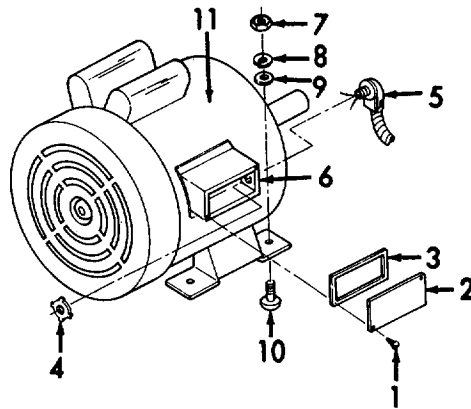

Figure 3-31. Electric Motor, Removal.
a. *Removal.* (Refer to Figure 3-31).